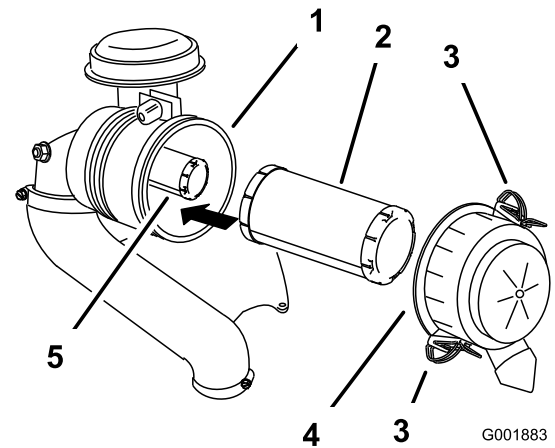

Figure 39
3. Release the latches on the air cleaner and pull the air cleaner cover off the air cleaner body (Figure 39).
5. Gently slide the primary filter out of the air cleaner body (Figure 39).
2. If the safety filter is being replaced, carefully slide it into the filter body (Figure 39).
3. Carefully slide the primary filter over the safety filter (Figure 39).
4. Install the air cleaner cover and secure the latches (Figure 39).